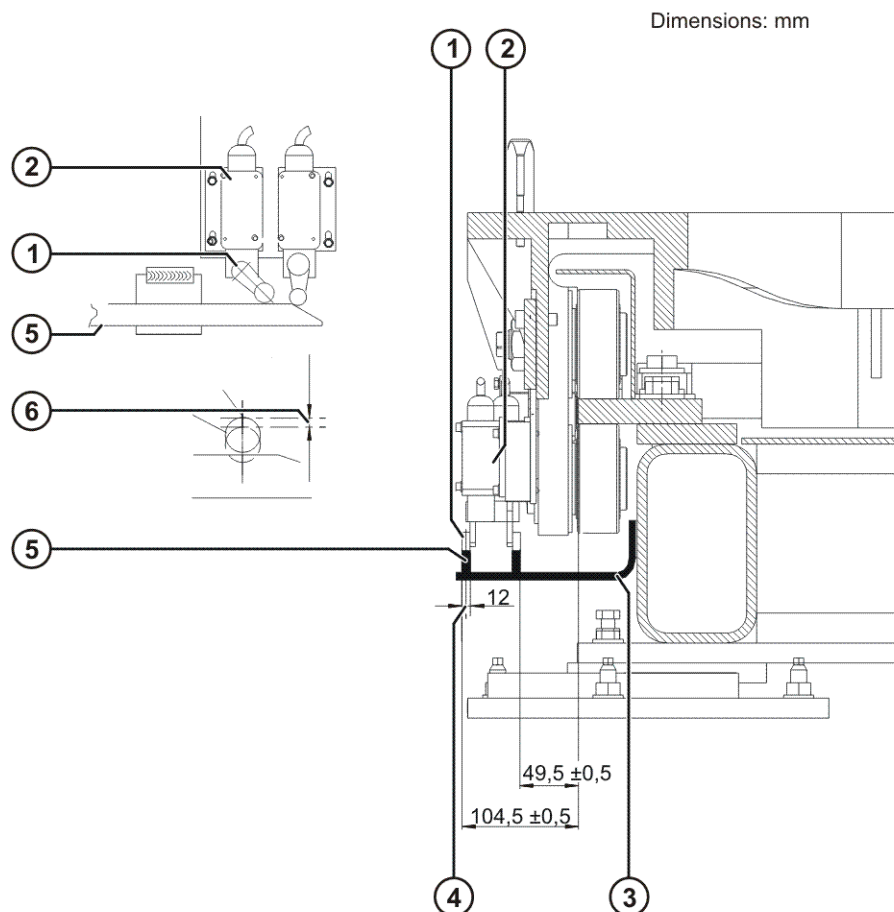

Fig. 14-6: Permissible height offset and lateral offset
6. Check the height offset (>>> Fig. 14-6) between the position switch and cam.